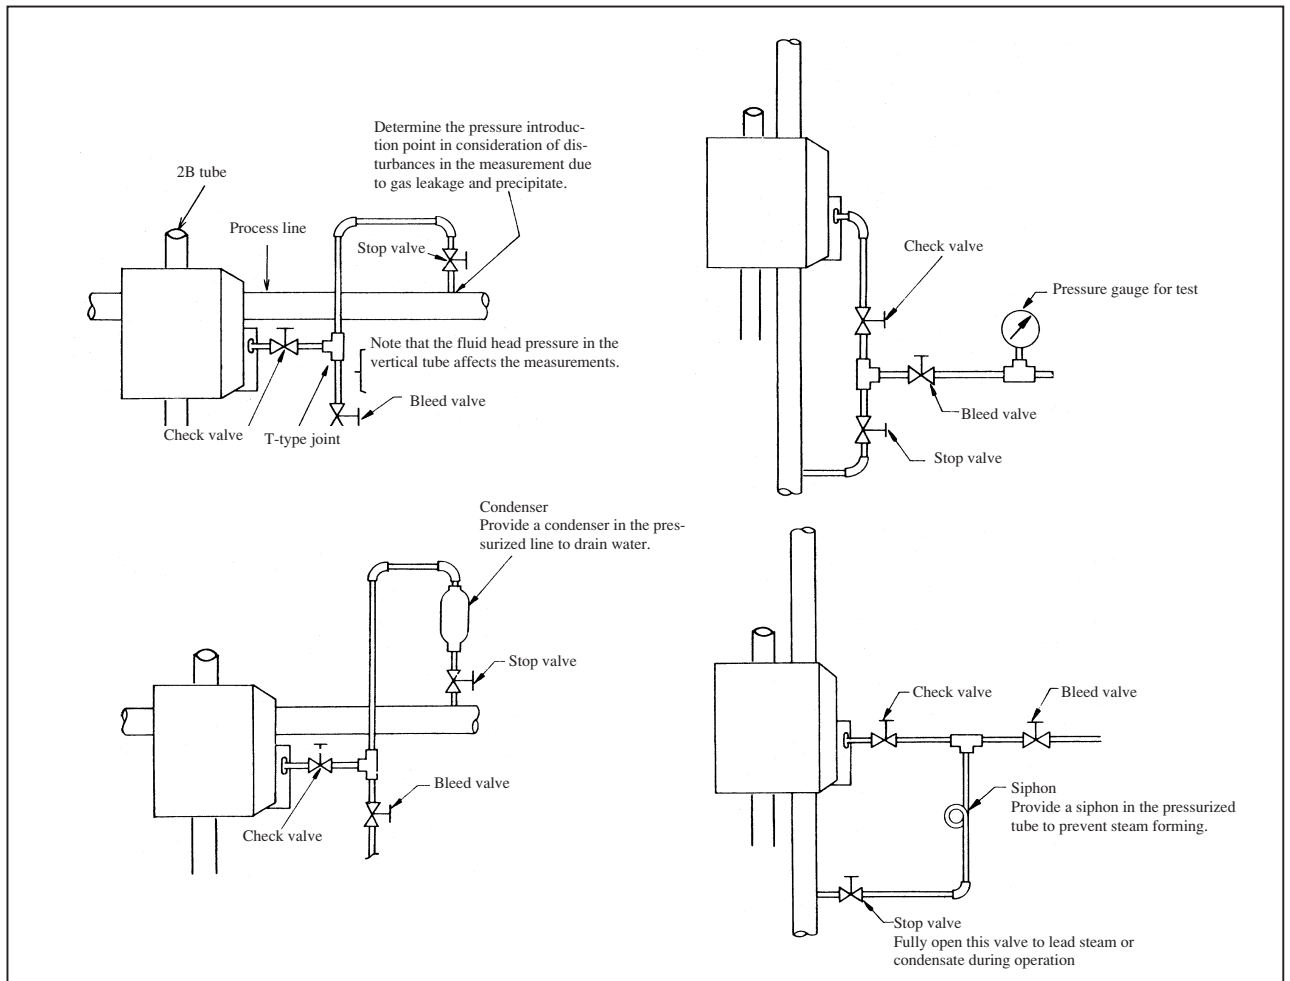

Fig. 6-4 Typical piping systems
- b) A typical piping example is shown in Fig. 6-4. The procedure is as follows: